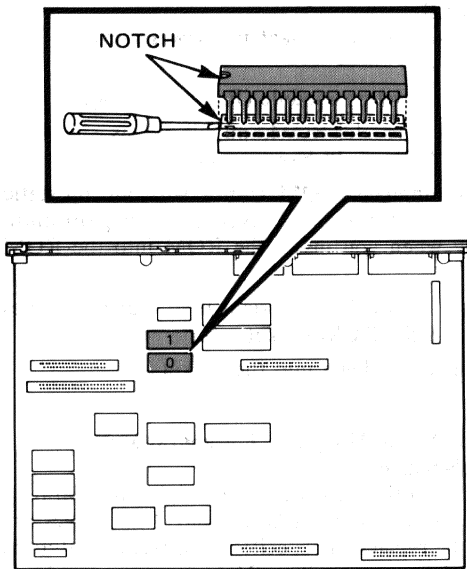

Figure 5-15 ROM Removal on PC100B
5. Use a small flat screwdriver to gently lift each end of the ROM, shown in Figure 5-15, until you can lift it out of its socket.